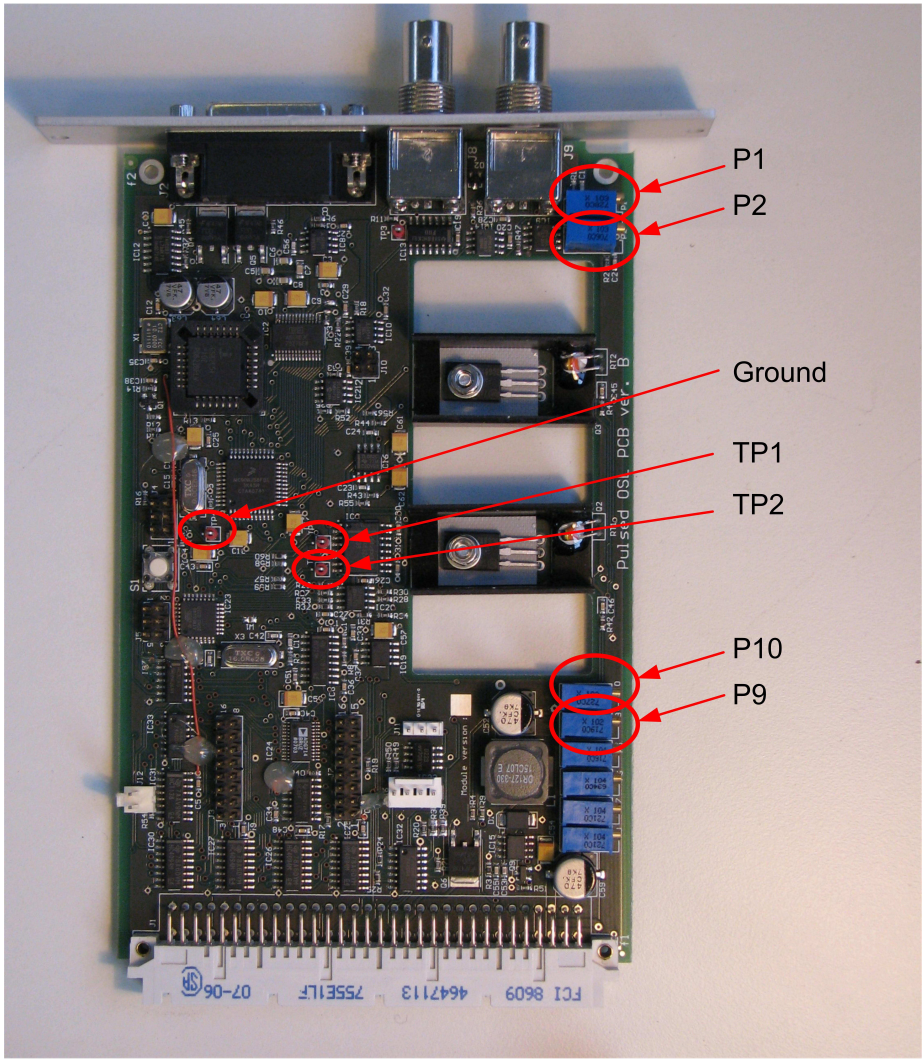

Figure 6: Picture of the circuit board. Please note the positions of “ground”, “TP1”, “TP2”, “P1”, “P2”, “P9” and “P10”
A picture of the circuit board is shown in Figure 6.
2. measure the voltage between “ground” and “TP1”(see Figure 6). Adjust “P9” to give -8.0 V (± 0.05 V)
15. Run a calibration routine after the OSL calibration unit has been removed. This is done by pressing the “Enter Calibration mode” button in the Control program (see Figure 6). The unit will now start an automatic calibration routine. After approximately 1 minute the calibration ends. If the calibration is not completed try to repeat the process carefully. If the calibration procedure is still unsuccessful contact Risø Support (+45 4677 4935 or osl@risoe.dk)